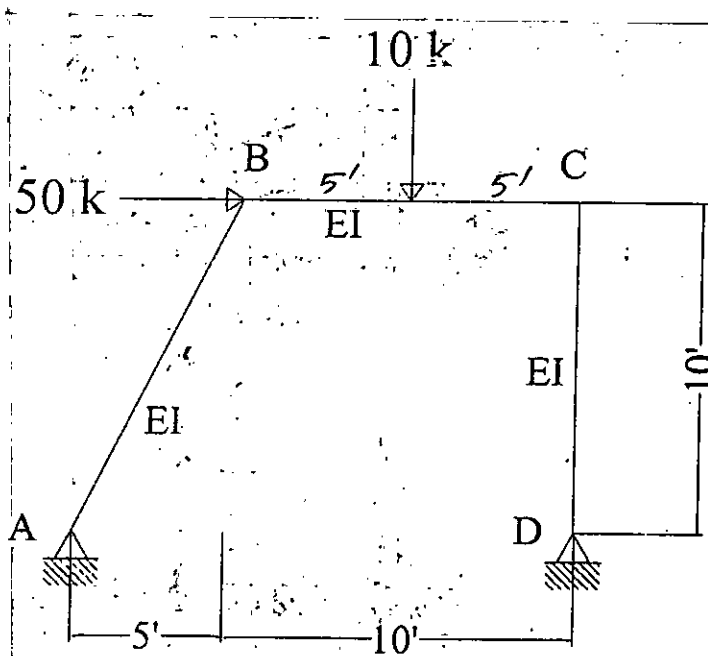

Figure 4.
4. Analyze the sway frame given in figure 4 using Moment Distribution Method and determine the moments at each joint of the frame. Assume, EI is constant for all the members of the frame.